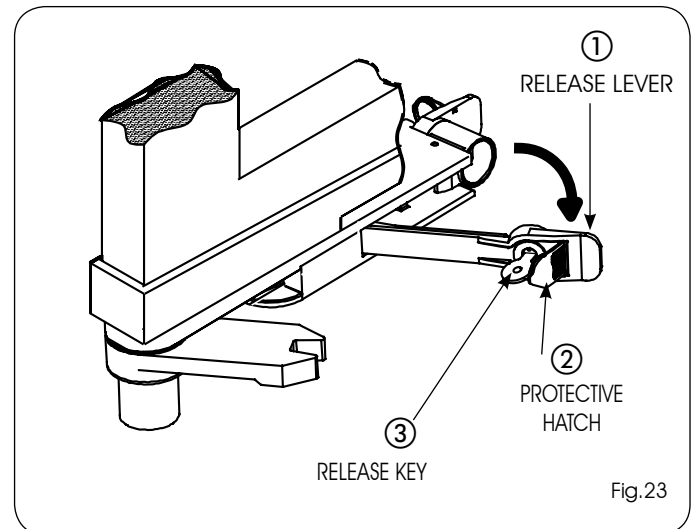

Fig.23
- 1) Open the protective hatch (Fig.23 ref. ②).
- 2) Insert the release key in the lock (Fig. 23 ref. ③) and turn it clockwise sense up to its stop point.
- 3) Pull the release lever toward you (Fig. 23 ref. ①).
- 2) Insert the release key in the lock (Fig.23 ref.③), turn it in the opposite direction up to the stop point and remove it.